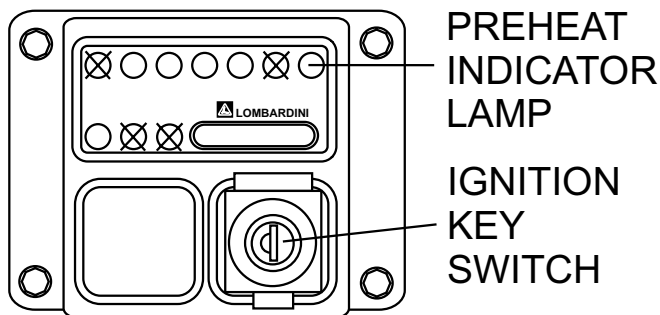

Figure 14. Ignition Key Switch (Lombardini/Deutz Engine)
3. Insert the ignition key into the ignition key switch (Figure 14). Turn the ignition key clockwise one click to the ON position. The preheat indicator lamp will light. Wait for this indicator lamp to go OFF. When the indicator lamp goes OFF, the glow plugs have been preheated and the engine can now be started.